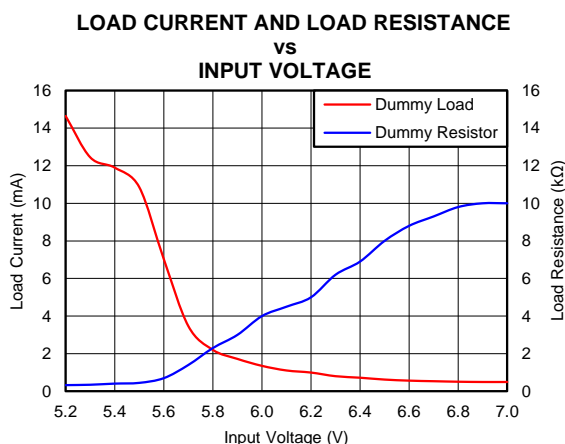

Figure 7. Dummy Load With 5-V Output
When the converter operates in CCM, the PH voltage is clamped to ground during the high-side switch off time, allowing the BOOT capacitor to be fully charged. As a result, this regulation problem does not exist in CCM. However, when operating near 100% duty cycle, there is a drop on the output voltage when the BOOT UVLO is triggered. The high-side MOSFET turns off and the output capacitor must supply the load during this time period (see Figure 7).
Figure 7 shows the values of the dummy load with different input voltages when the output is 5 V. The minimum load is selected to provide at least one minute of regulation followed by an immediate recovery from brownout. It also includes the corresponding dummy resistor values.
To improve the low dropout of the TPS54240 and TPS54260 family, this application note investigates the low dropout operation in light load. Two basic solutions are introduced, which include (A) dummy load at the output and (B) an external voltage at the BOOT node. Figure 7, Figure 8, and Figure 9 show the effect of the basic solutions. Based on the basic solutions, the four additional solutions provided are: